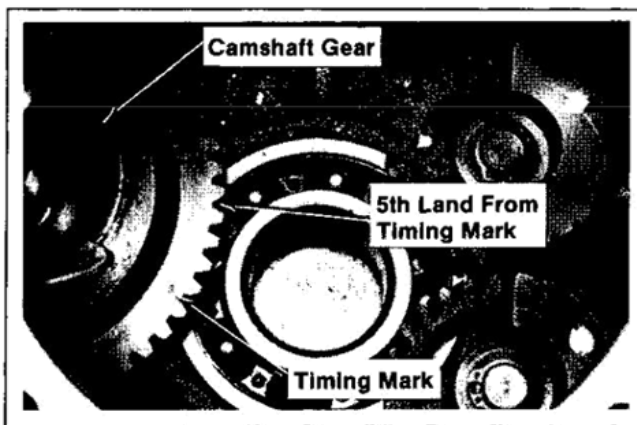

Figure 12-19. Marking Land On Camshaft Gear.
**Camshaft** - Locate the timing mark on camshaft. Starting with the land next to the timing mark, count **five (5)** lands in a **counterclockwise** direction. Mark the fifth land. Refer to Figure 12-19.